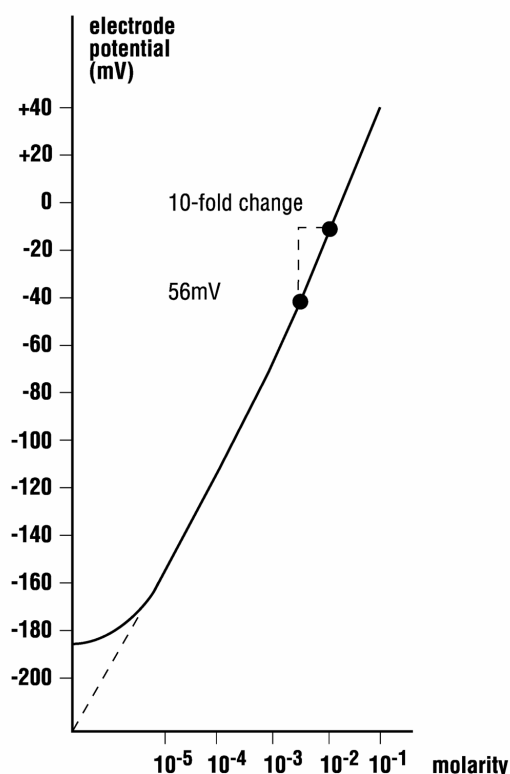

Figure 5: Typical calibration curve
5. On a semi-logarithmic graph paper, plot the voltage readings (linear axis) against the concentration (logarithmic axis). See Figure 5 for a typical calibration curve